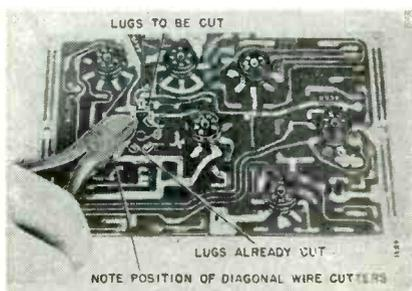

Fig. 7—Cutting off lugs of defective transformer to permit easier removal.
2. Cut off the transformer lugs as close to the board as possible. Repeat step (1). See Fig. 7. Use a cloth dipped in thinner to clean away any specks of solder stuck to the board.